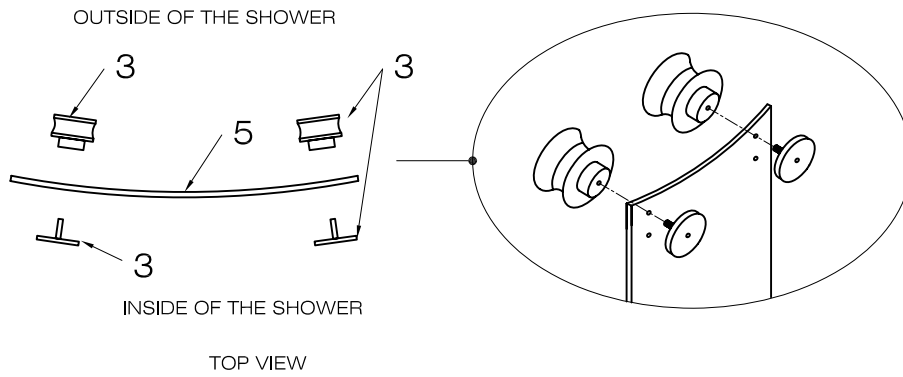

FIG. 6
1. Screw top rollers (3) to the door (5), see FIG. 6.